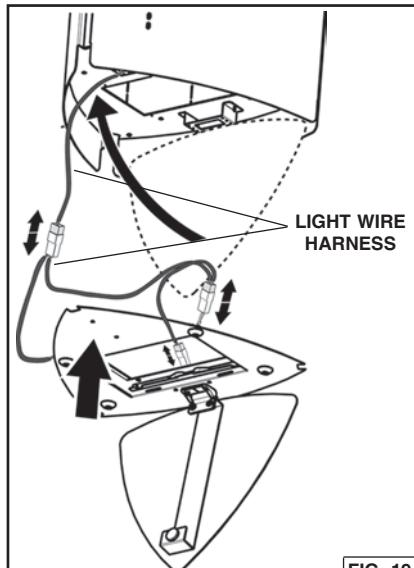

FIG. 19
3. Attach the light wire harness from the range hood body to the harness on the Range Hood Bottom. Fig. 19.